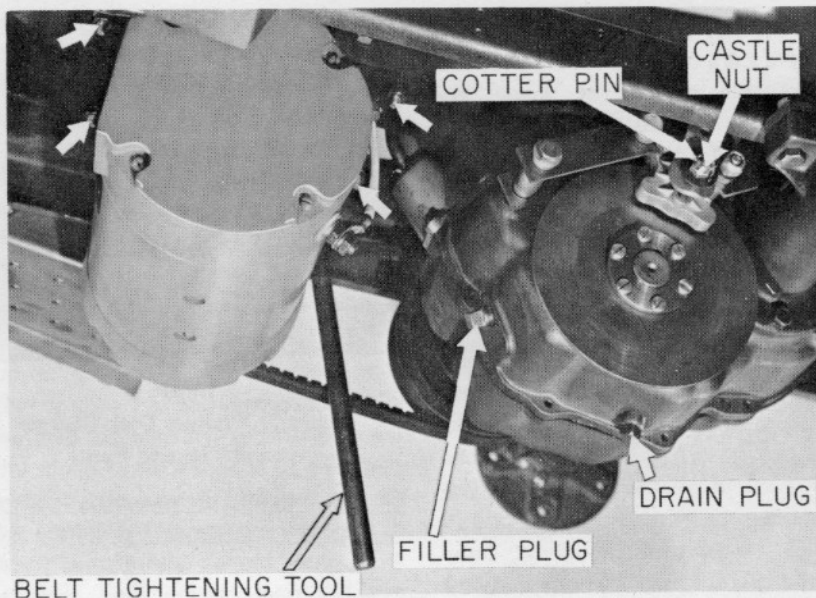

Figure 9. Brake, Transaxle, and Motor Mounting
After 100 operating hours, the transaxle filler plug should be removed and the fluid level checked (See Figure 9). The oil level should be to the bottom edge of the filler hole. If necessary, replenish with approved ELEC-TRAK axle fluid *only*.
1. Loosen four carriage bolts holding motor plate. Insert a 1/4" wedge under the forward part of the motor plate, and retighten bolts finger tight (See Figure 9).
A fully depressed brake pedal or an engaged parking brake should be sufficient to prevent the tractor from *rolling* on average hillsides. If the brakes do not perform satisfactorily, the following adjustment may be made which will correct both brakes simultaneously: (See Figure 9).